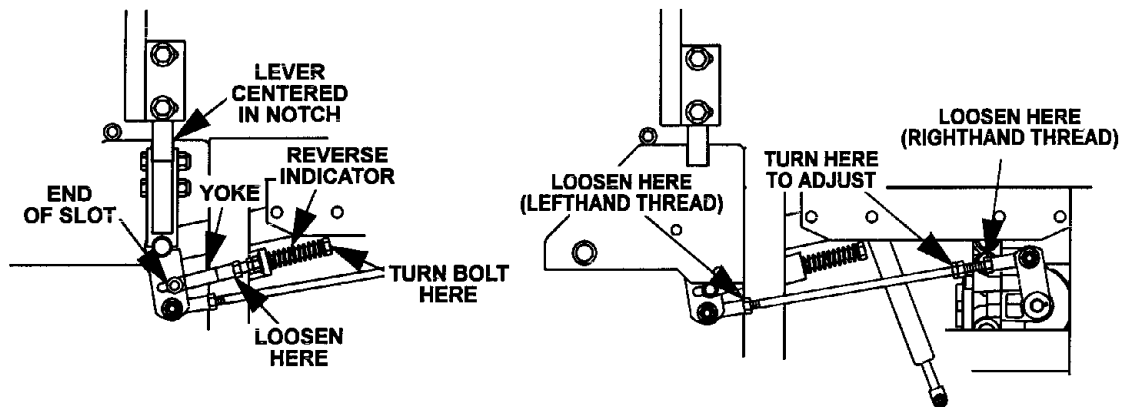

FIG. 11
- c) Begin with either the left or right motion control lever. Move lever to the neutral position and pull lever back until the clevis pin (on arm below pivot shaft) contacts the end of the slot (just beginning to put pressure on spring), See Fig 11.
- d) Loosen locknuts from the ball joints on the two rods which connect the motion control assemblies to the pump control arms (See Fig 11).
- g) Begin on either the left or right side of unit and bring the motion control lever in to the neutral position. Adjust pump control rod length by rotating the double nuts on the rod in the appropriate direction until the wheels slightly creep in reverse. (See Fig 11). Move the motion control lever to the forward position and bring back to neutral, the wheel must stop turning or slightly creep in reverse. Do the same in reverse and make adjustments if needed.